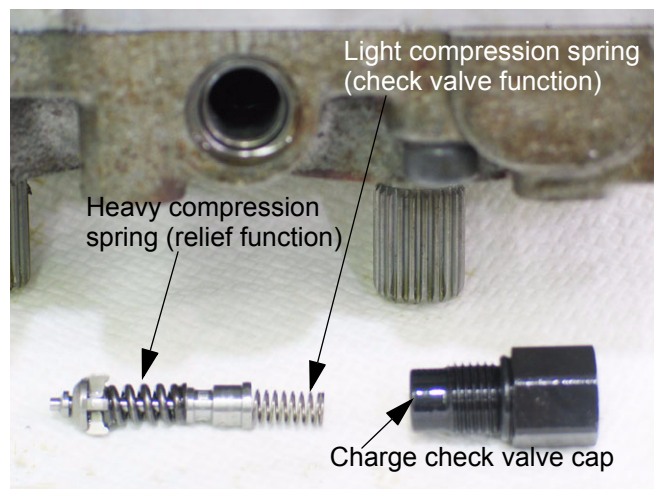

Figure 5.13
5.13. When removed, each charge relief valve comes out as a cartridge. The light compression spring provides the check valve function. The heavy compression spring provides system relief. System relief comes into play in the event of a drive system overload. See Figure 5.13.